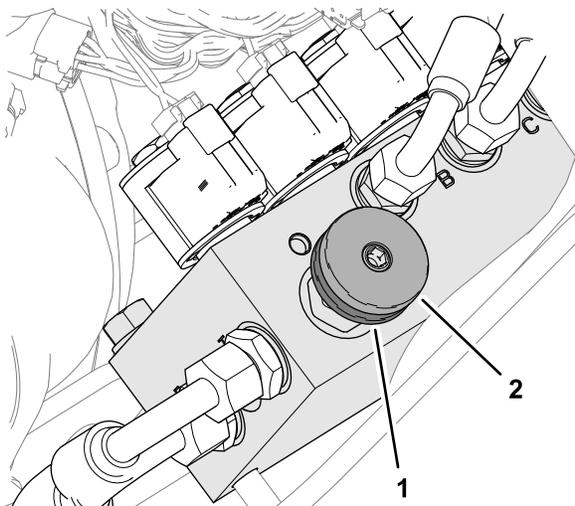

Figure 37
To engage weight transfer: The amount of weight transfer can be varied to suit operating conditions by rotating the weight transfer hand wheel (Figure 37) as follows:
1. Release the valve locknut 1/2 turn counterclockwise and hold (Figure 37).
2. Rotate the valve hand wheel (Figure 37) counterclockwise to reduce weight transfer or clockwise to increase weight transfer.